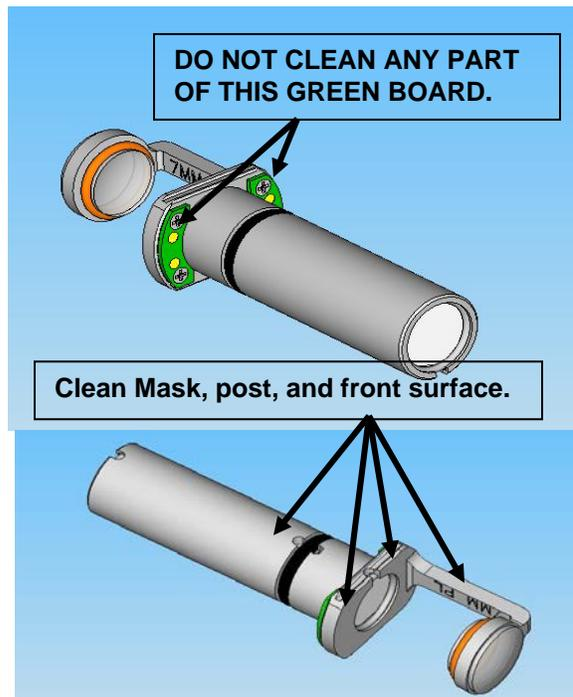

Figure 6.6: PL Distance Gauge Cleaning
2. Be sure **not** to wipe the green circuit board on the Distance Gauge (Figure 6.6).
- d. While holding the lens in the distance gauge ring, slide the O-ring back on the lens to secure it in its place. (See Figure 6.6).